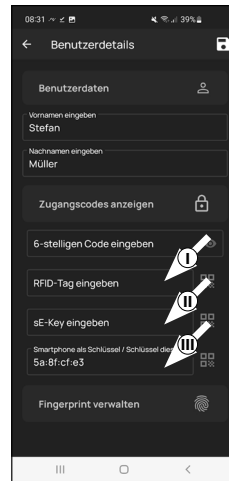

Fig. 4
**!** **Note:** The lock opening by smartphone is automatically stored in the administrator's user profile (III) (Fig. 4). A different smartphone as the electronic key can be stored in this field for additional users. An instructions on this subject can be found in the master operating instructions on our website (see link on the title page).